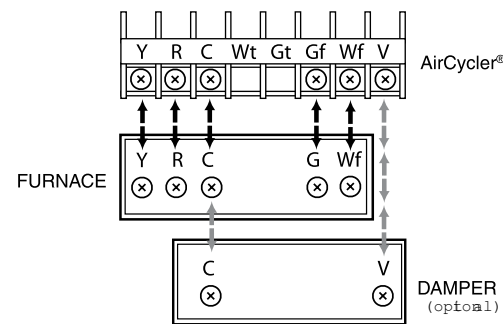

Figure 2
6. Connect wires to proper terminals of the connector block. (Figure 2) Both (R) and (C) must be connected for proper operation.